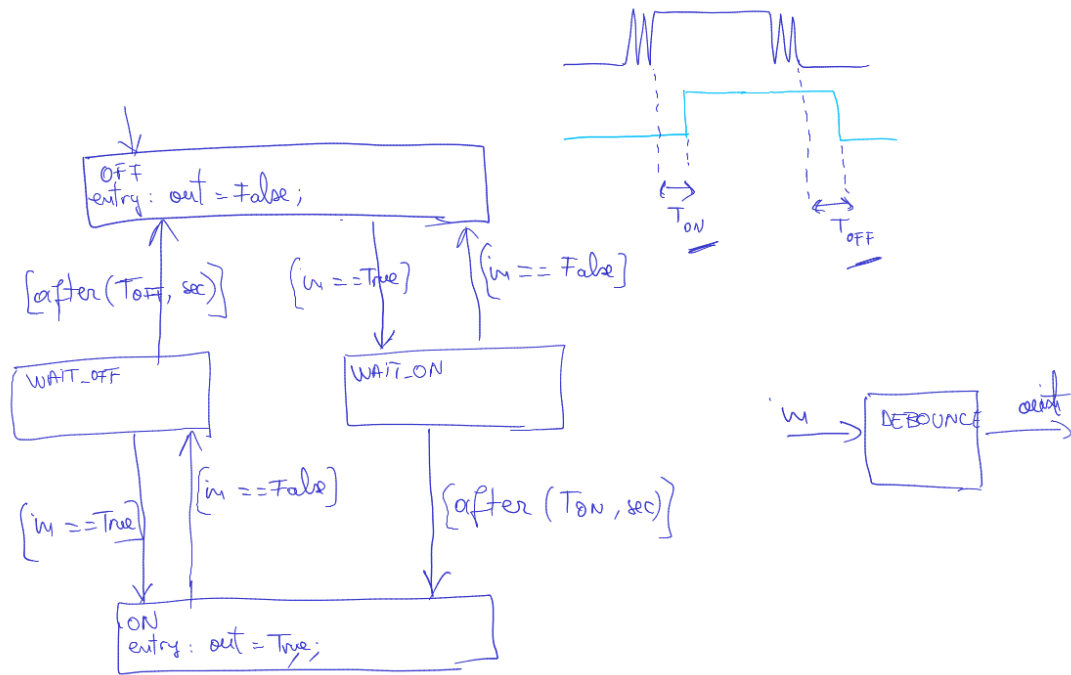

Figure 1: Debouncing schematic
- Model Settings: Set the Solver type to “Fixed-step”, “discrete (no continuous states)”, and fixed step size to 0.1 (see Fig.1)